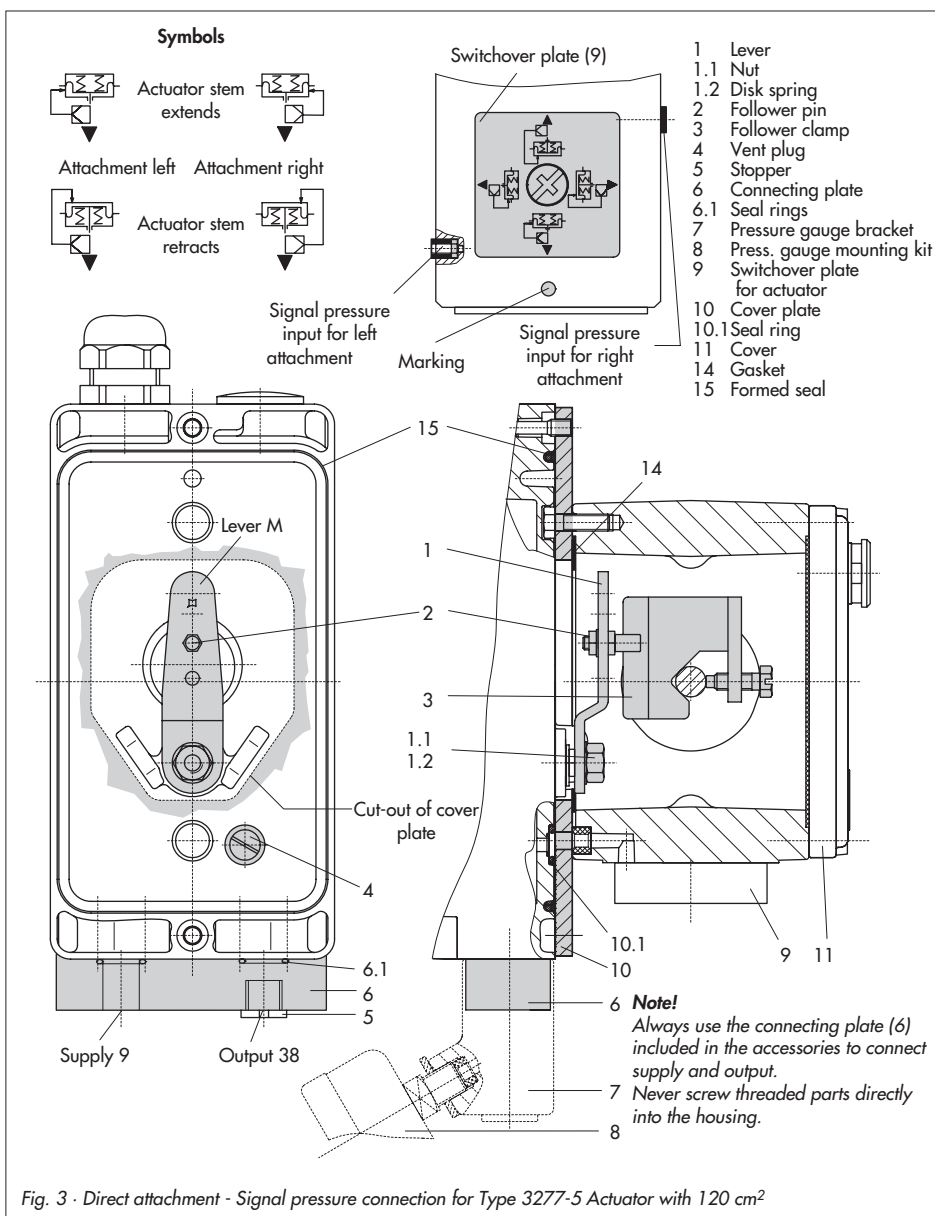

Fig. 3 · Direct attachment - Signal pressure connection for Type 3277-5 Actuator with 120 cm2
1. Mount connecting plate (6) or pressure gauge bracket (7) with pressure gauges onto the positioner, making sure both seal rings (6.1) are seated properly.
2. Remove vent plug (4) on the back of the positioner and close the signal pressure output "Output 38" on the connecting plate (6) or on the pressure gauge bracket (7) with the stopper (5) included in the accessories.
3. Place follower clamp (3) on the actuator stem, align and screw tight so that the mounting screw is located in the groove of the actuator stem.
4. Mount cover plate (10) with narrow side of the cut-out opening (Fig. 3, left) point-